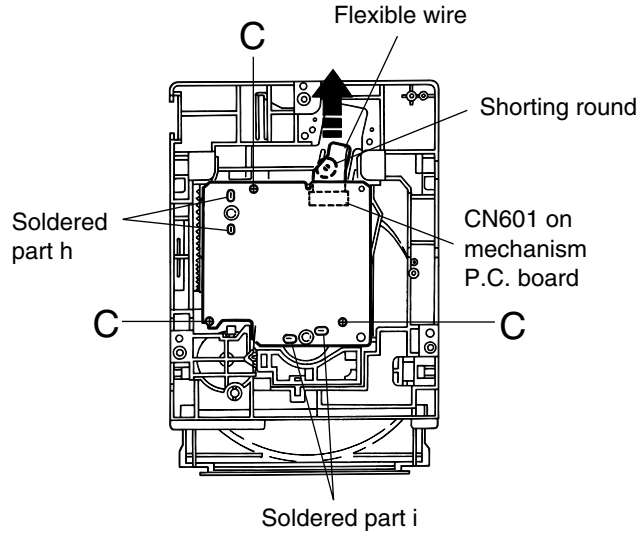

Fig. 10
■ Removing the Reel Pulse P.C. Board / Solenoid (Refer to Fig. 10.)
(Refer to Fig 10.)